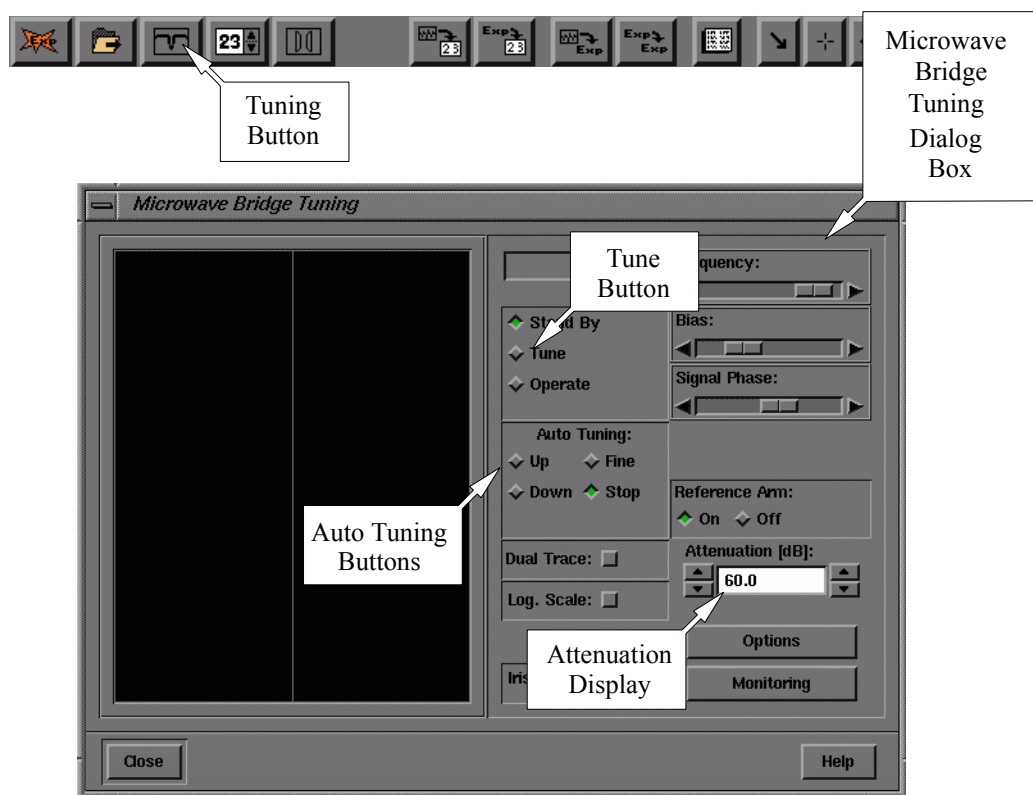

Figure 3-8 The Microwave Bridge Tuning dialog box.
1. **Open the Microwave Bridge Tuning dialog box.** Click the Tuning button in the monitoring panel. The Microwave Bridge Tuning dialog box will then appear. (See Figure 3-8.)
There are three states or modes for the microwave bridge: **StandBy**, **Tune**, and **Operate**. When you connect to your spectrometer, the bridge is in **Stand By**, indicated by a green **Stand By** button. (See Figure 3-8.) If you have been acquiring spectra already, your bridge will probably be in **Operate**.
3. **Set the microwave attenuator to 30 dB.** The microwave attenuation is set by clicking the arrows on either side of the attenuation display in the dialog box. (See Figure 3-8.) The arrows on the left change the attenuator in 10 dB steps; those on the right in 1 dB steps.
7. **Tune the bridge and cavity.** Pressing either the Up button or Down button of Auto Tune starts the automatic tuning procedure. (See Figure 3-8.) The Up button starts by scanning the microwave frequency up in search of the cavity dip (or frequency where the cavity resonates). The Down button starts by scanning the microwave frequency down in search of the cavity dip. If you are not sure if the search should start up or down, do not worry. The frequency will be scanned until its limit is reached and then scan in the other direction until the cavity dip is found. The Auto-Tune routine adjusts the frequency, phase, and bias of the bridge and the coupling (matching) of the cavity. If there is an error message, try manual tuning described in Section 7.1. If you still have difficulty in tuning, it usually means that you have a lossy or conductive sample. Refer to Chapter 9 for trouble shooting.
8. **Close the Microwave Bridge Tuning dialog box.** Click the Close button. The Microwave Bridge Tuning dialog box will then disappear. (See Figure 3-8.)